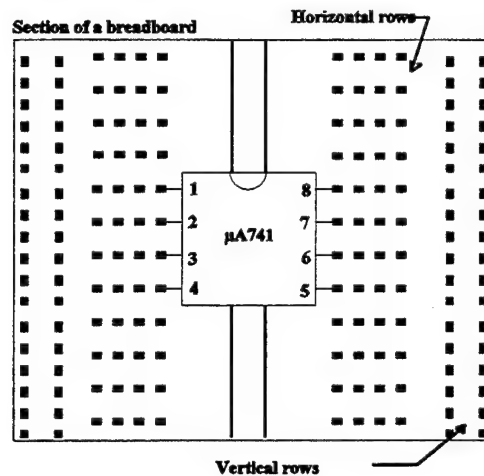
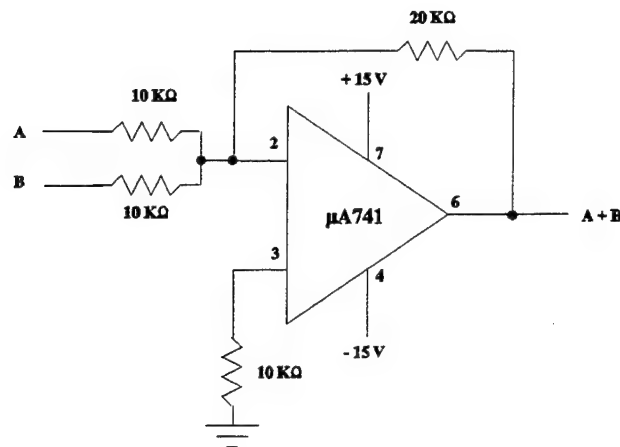

Figure 1
Figure 2
The TDM circuit is constructed using four integrated circuit chips adapted from Ref. [4]. See Figure 2 of Appendix D. A square wave and a triangle wave are produced using a XR8038 precision waveform generator. They are multiplexed with two external inputs, a DC signal and a square wave, using a CD4051B analog multiplexor. The output waveform is a combination of the four signals. Each signal is sampled once every clock pulse. The clock frequency of 7.5 kHz is provided by a CD4029B up/down counter.
The end of the chip with the semicircular mark is the top. The pins are numbered from the top left. See Figure 1.
b) Figure 2 is a representation of a summer circuit. This circuit adds the two input signals, denoted A and B, and multiplies them by a gain of two. The pins numbers on the op-amp correspond to the numbers marked in Figure 1. Connect the circuit of Figure 2, disregarding connections to A and B. They will be connected later. Use three horizontal busses. One bus will be for ground, one for + 15 volts and one for - 15 volts. Measure the power **before** it is connected to the circuit! The  $\pm 15$  volts and ground will come from the P5S03 power supply. To measure the power, connect the ground and the positive output of the power supply to the DMM. Adjust the power until it reads + 15 volts. Remove the positive lead from the power supply and connect it to the negative output of the P5S03. The DMM should now read negative volts. Adjust the power supply for -15 volts.